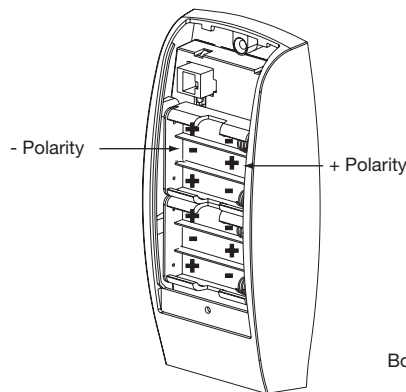

Fig. 5
1. Place (6) "AA" batteries the compartment, being careful to align polarity properly (Fig. 5).